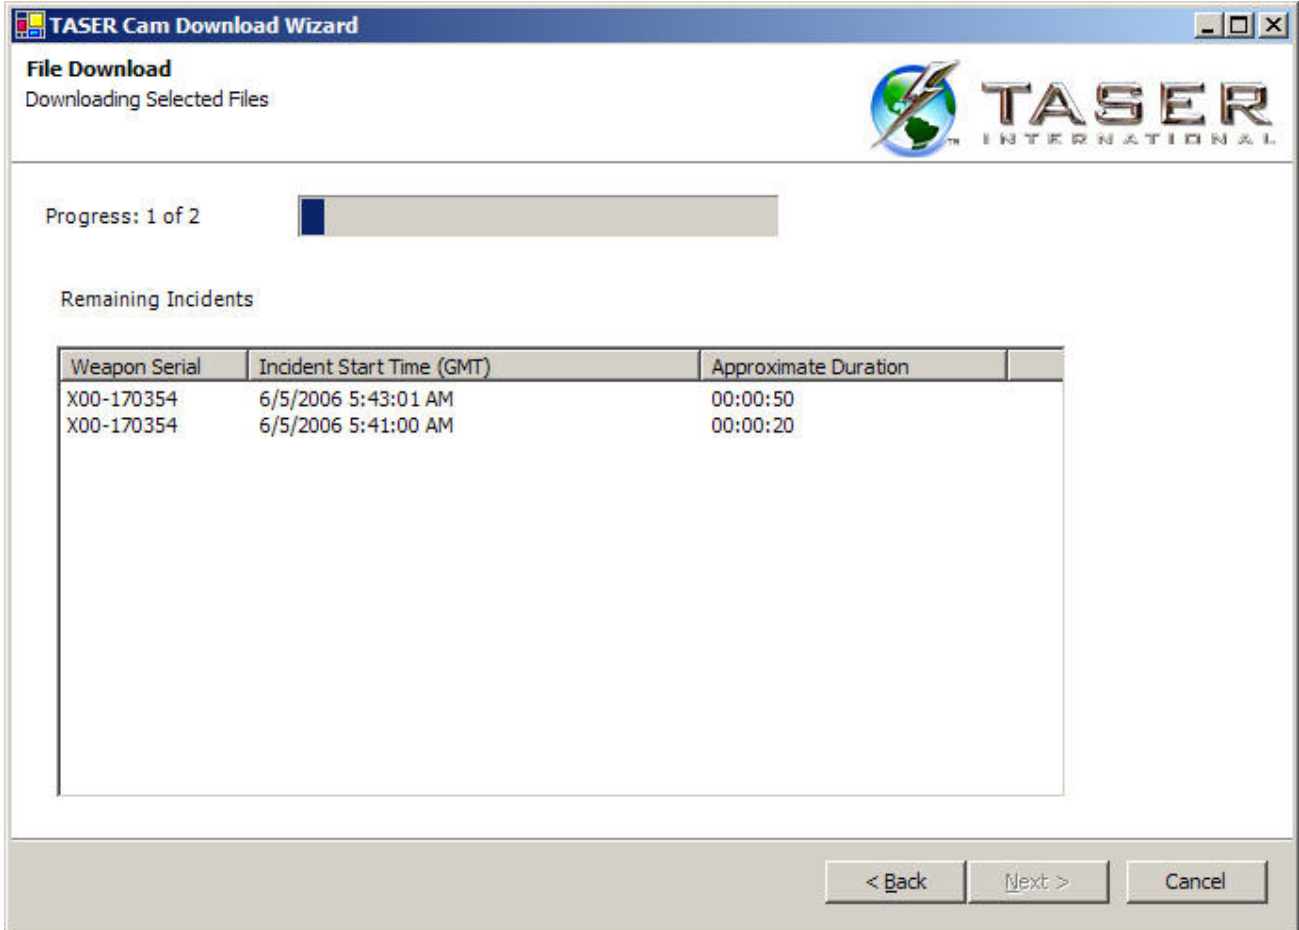

Figure 14
6. The progress of the download is indicated by the blue status bar and the incidents remaining to be downloaded are listed below it (Figure 14).